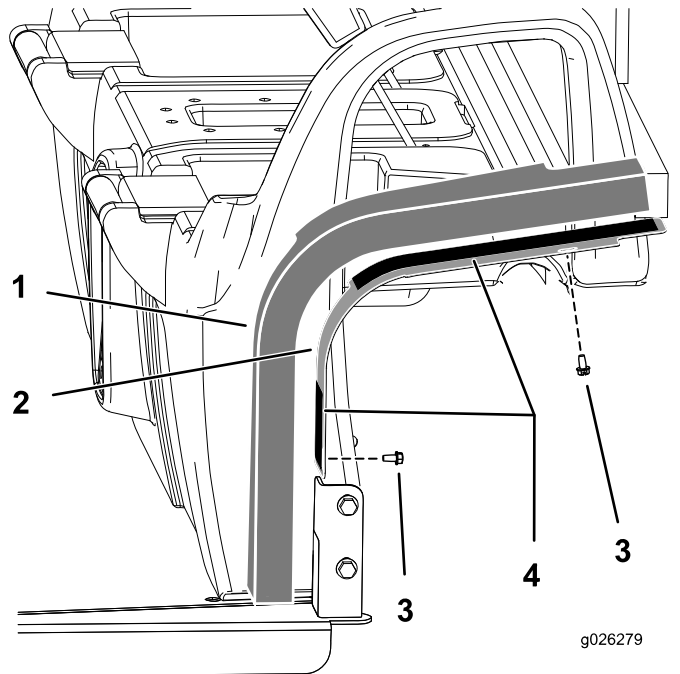

Figure 7
1. Fasten the mounting plates onto the cab using 4 bolts (1/4 inch) as shown in Figure 7.
3. Remove the paper backing from the double stick tape on the mounting plates (Figure 7).
4. Install the foam panels onto the assembly (Figure 7).